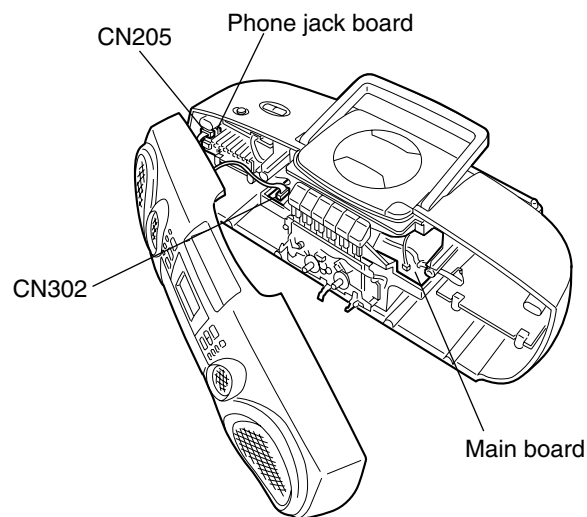

Fig.5
6. Disconnect the speaker wire from the connector CN205 on the phone jack board. (See Fig.5.)
7. Disconnect the parallel wire from the connector CN302 on the main board. (See Fig.5.)